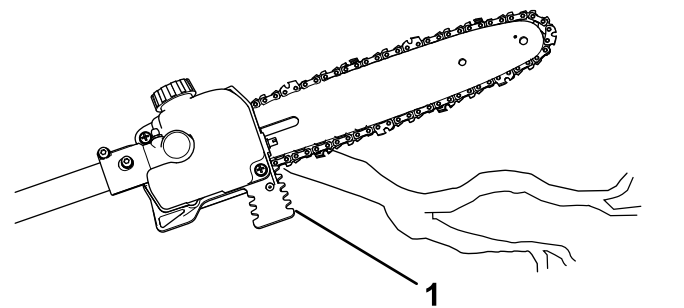

Figure 10
5. Cut with the branch near the rear of the guide bar, close to the cutting guide; press the saw chain lightly against the wood and allow the weight of the pole saw to drive the cutting (Figure 10).